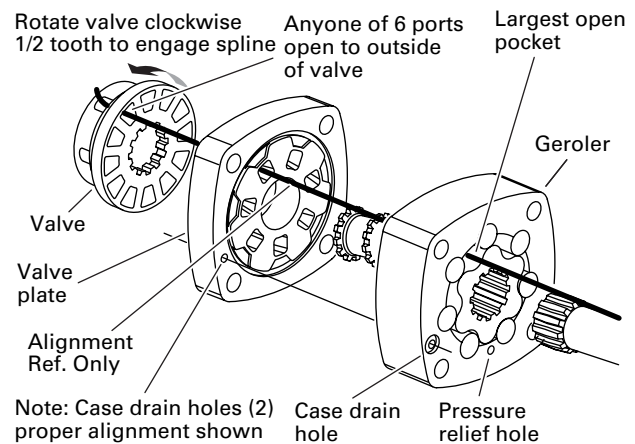
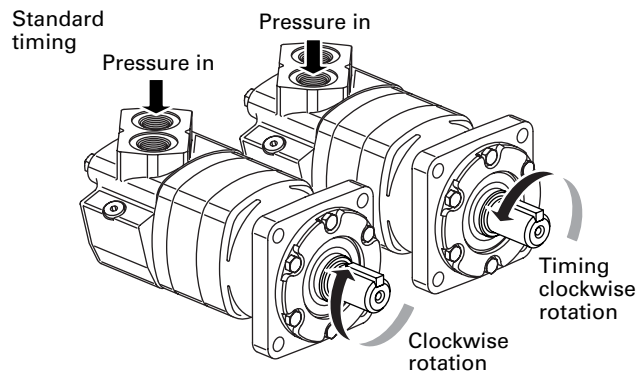

Figure 17 Timing alignment
Figure 18
Timing Step No. 1 — Locate largest open pocket in Geroler. Then mark location of pocket on outside edge of Geroler (see Figure 17).
32. Align case drain hole and pressure relief hole in Geroler with case drain hole and pressure relief hole in bearing housing. Install Geroler on bearing housing (see Figure 17). Retain rollers in outer Geroler ring if they are loose.
35. Align case drain hole in valve plate with case drain hole in Geroler. Install valve plate (seal side toward Geroler) on Geroler as shown in Figure 17.
Timing Step No. 2 — Locate slot opening in valve plate which is in line with largest open pocket of Geroler (see Figure 17).
Timing Step No. 3 — Locate any one of the side openings of the valve that goes through to the face of the valve. Line up this side opening in the valve with open slot of valve plate that is in line with largest open pocket of Geroler. Rotate valve clockwise (1/2 spline tooth) to engage valve with the valve drive spline, alignment reference shown in Figure 17 (above). This procedure provides standard timing when pressurized as shown in Figure 18 (below).